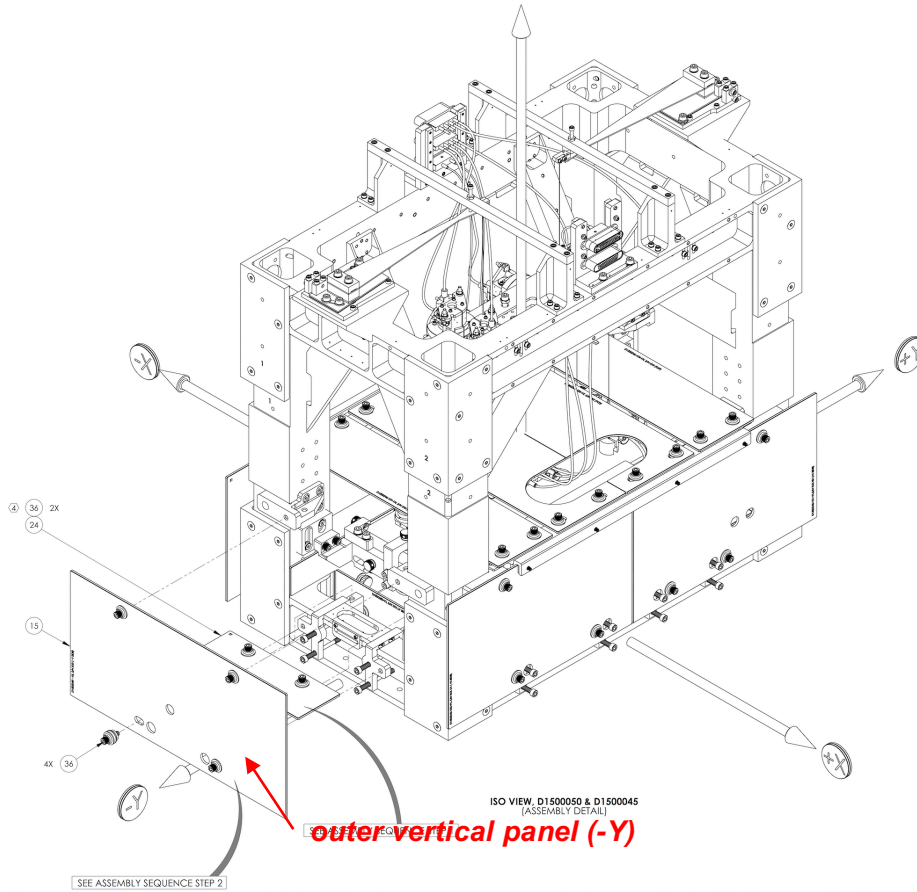

Figure 6: Outer vertical panels (-Y) (D0900295 Sheet 17)
- Remove -Y side (WFS side) vertical panel (D1500045) to allow us to remove the OMC breadboard from this side (Figure 6).